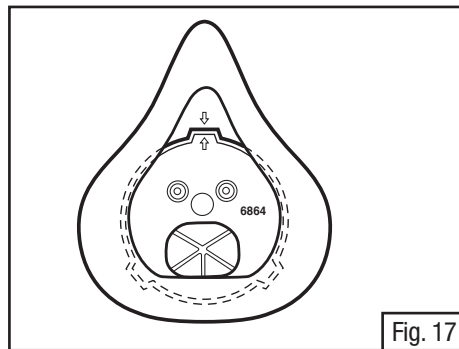

Fig. 17
2. To replace, position nose cup assembly onto center adapter aligning arrows (Fig. 17).
7. Replace nose cup assembly (Fig. 17).